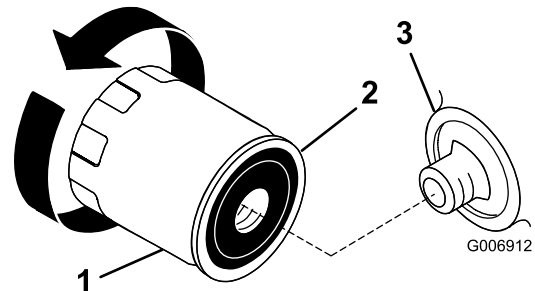

Figure 32
2. Remove the old oil filter, and wipe the filter adapter (Figure 32) gasket surface.
3. Apply a thin coat of new oil to the rubber gasket on the new oil filter (Figure 32).
5. Turn the oil filter clockwise until the rubber gasket contacts the filter adapter, then tighten the oil filter an additional 1/2 to 3/4 turn (Figure 32).